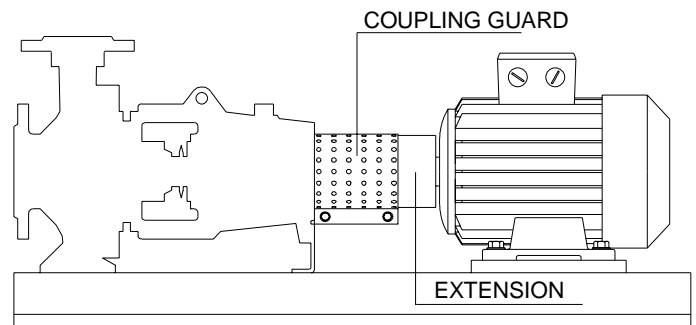

Fig. 8 - CHECKING ALIGNMENT ON BASE MOUNTED PUMP DESIGN
- 7 - Remove the coupling guard and its extension (if there is one) attached to the pump, by removing the two locking screws (see fig. 8 and 9).